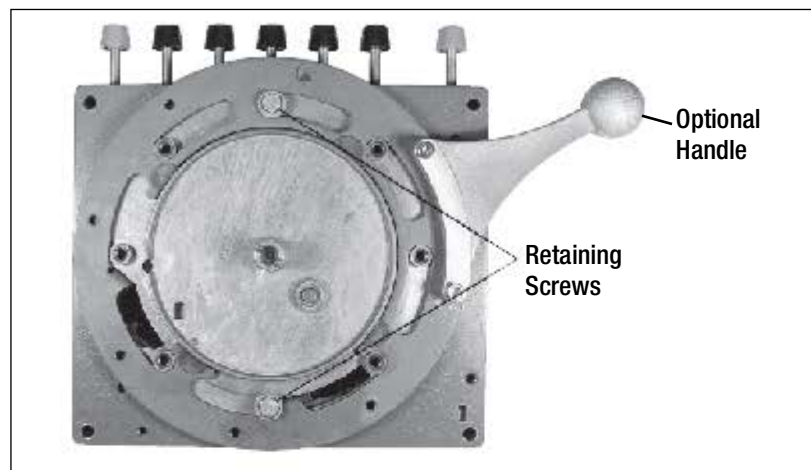

Figure 2. Removal of Preset Knockoff Plate Retaining Screws
1. Remove and discard the two hex head screws and washers that secure the spring-loaded knockoff plate to the bottom of the Preset (Figure 2). With the two hex screws removed, ensure that the knockoff plate does not fall away from the Preset or damage to the knockoff plate return spring may result.